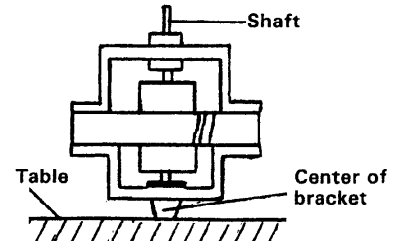

Figure C-4.
- 1) Hold the center of the bracket which supports the shaft of the fan motor on the flat table as shown in Figure C-4.